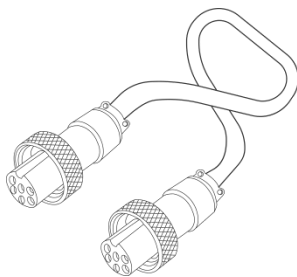

Figure 5-3
- Robot signal cable (Figure 5-3)